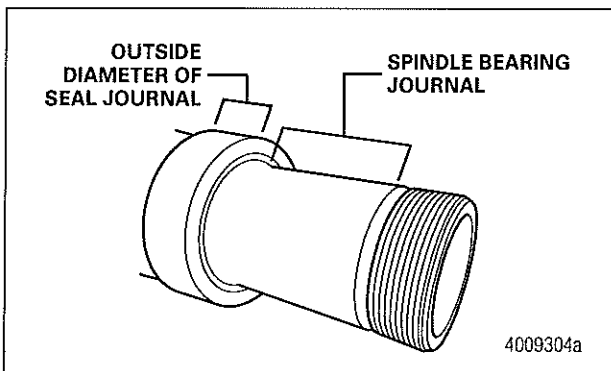

Figure 19
2. Apply a light coat of approved oil to the spindle bearing journal and outside diameter of the seal journal. Figure 19.